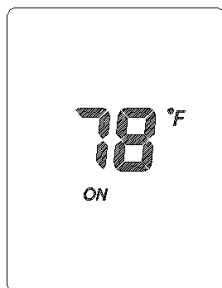
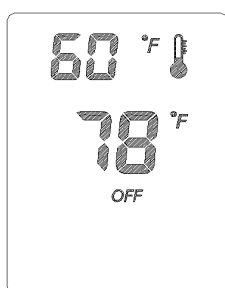
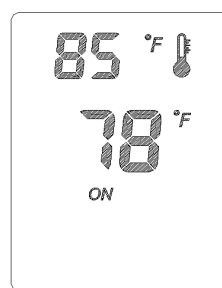
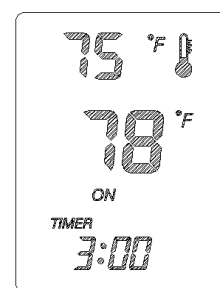

Figure 28
Figure 29
Figure 30
Figure 31
With burner in operation (See Figure 28), press TEMP button, the temperature setting and mark will appear on remote control (See Figure 29). Then burner into temperature control mode, press UP and DOWN button to change the desired temperature. Burner will automatically shut off when the room temperature is higher than set temperature 5°F (See Figure 30) and burner will automatically turn on when the room temperature is lower than the set temperature 5°F (See Figure 31), we can setting the temperature when the remote control in a auto off mode, operation is same as above.
2. Inspect burner, pilot and primary air inlet holes on injector holder for dust and dirt (see Figure 30).